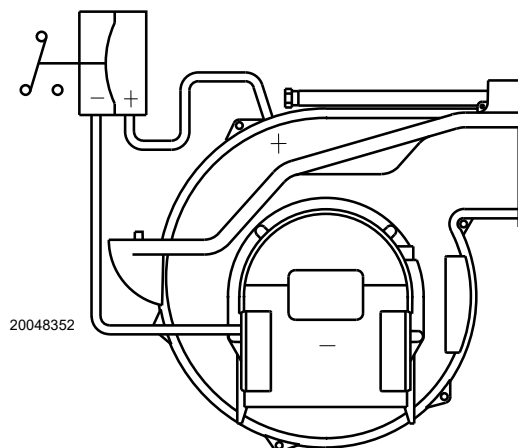

Fig. 34
- Adjust the air pressure switch (Fig. 34) to the start of the scale.
The air pressure switch is connected in differential (see Fig. 34) and is activated by both the negative pressure of the air intake and the air pressure from the fan.